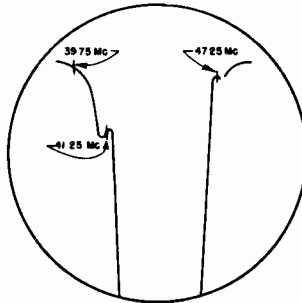

Fig. 10 Exploded View of Traps
8. Adjust the 47.15 Mc, 41.25 Mc and 39.75 Mc traps for minimum marker amplitude (See Fig. 10). It can be seen that maximum oscilloscope gain has been used and as a result the top of the response curve has been "run off" the oscilloscope screen in order to see a "blow-up" of the trap slot.